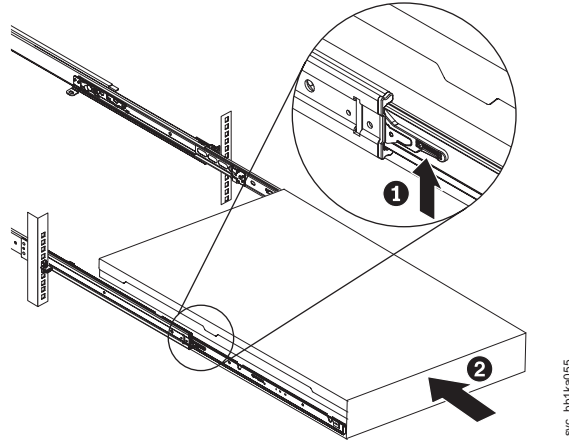

Figure 88. Raising the SAN Volume Controller 2145-CF8 locking levers of the slide rails of the rack
7. If you pulled out the node to the fully-extended position on the rack, lift the locking levers (**1** in Figure 88 on page 104) on the slide rails and push the server **2** all the way into the rack until it clicks into place.